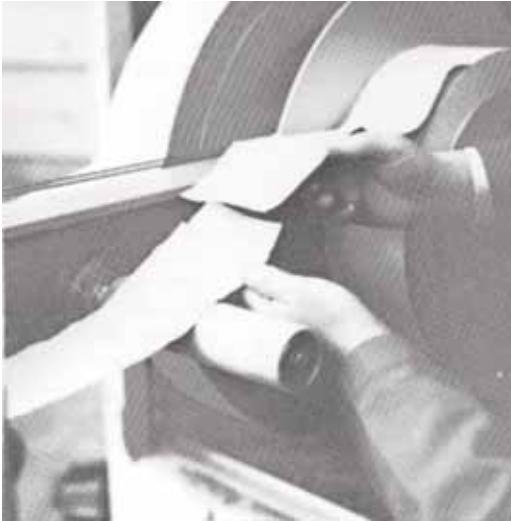

Figure 35
- E. Make splice on adhesive side with 2" (5.1cm) wide Scotch™ DCX, Double Coated Splicing Tape (Figure 35). **Be sure to remove paper liner of tape after splice.**